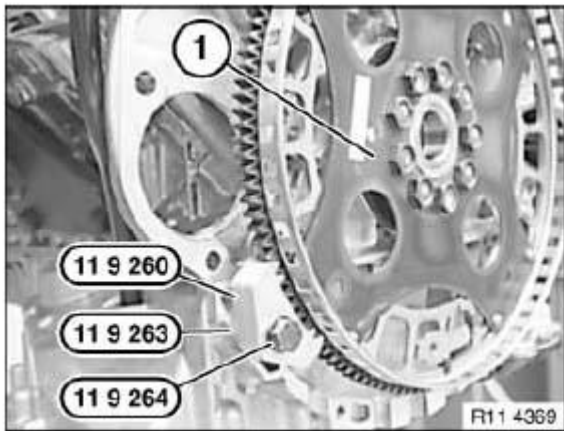

Fig. 129: Identifying Flywheel With Special Tools
Block flywheel (1) with special tool 11 9 260, use an old transmission screw for this purpose. See **Fig. 129**.